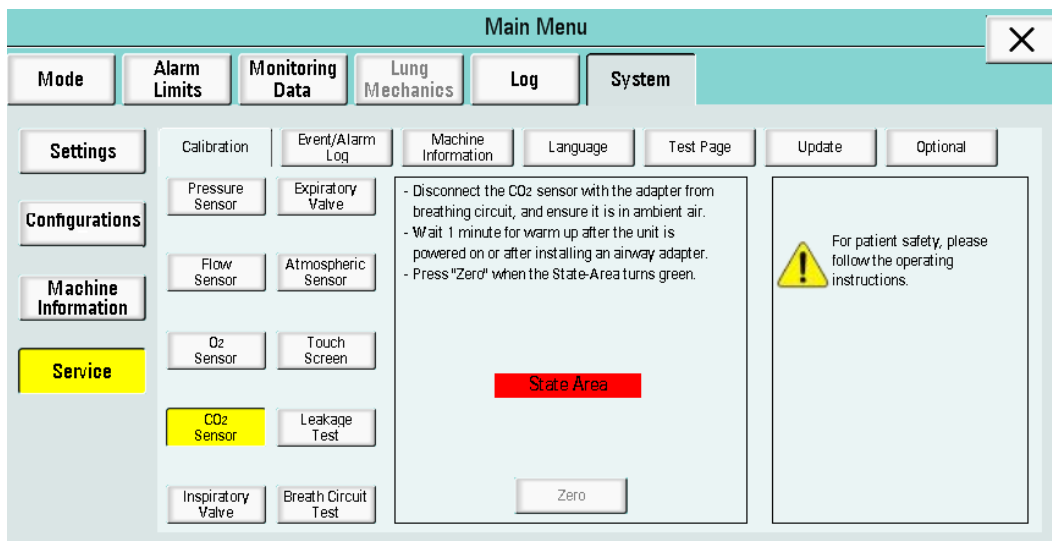

Figure 6-66
(4) CO₂ sensor Calibration: Click “CO₂ Sensor” to enter the interface, as shown in Figure 6-66. A message displayed: “Disconnect the CO₂ sensor with the adapter from breathing circuit and ensure it is in ambient air. Wait 1 minute to warm up after the unit is powered on or after connecting an airway adapter. Press “Zero” when the State-Area turns green”. Please follow the prompt message to calibrate.